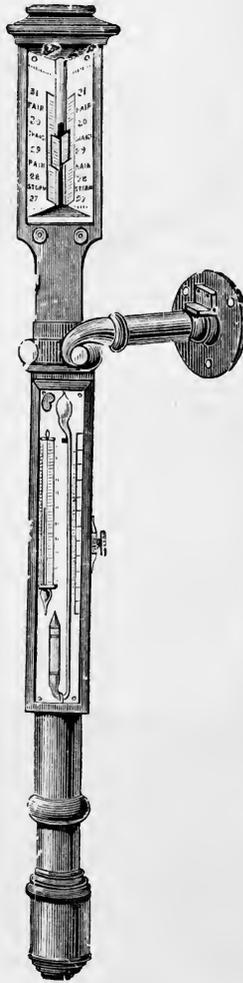

Fig. 79.
- 534. **MARINE MERCURIAL BAROMETER**, Board-of-Trade pattern, bronzed metal frame, with thermometer. Fig. 79 £4 10s. od.